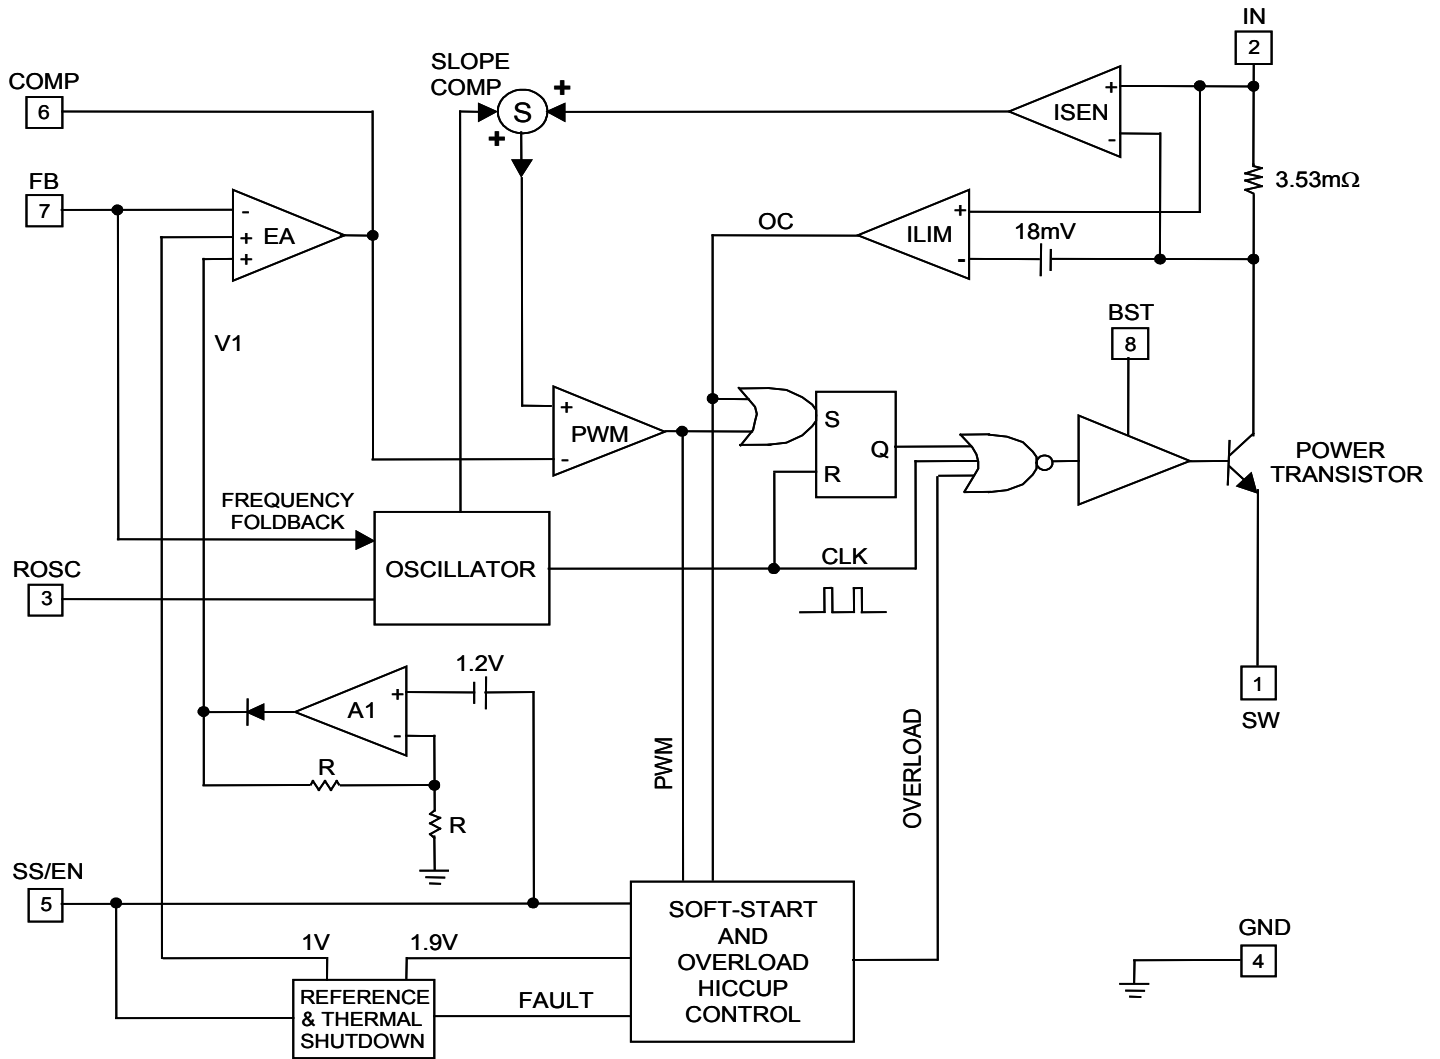

Figure 2 — SC4525D Block Diagram
As shown in Figure 2, the switch collector current is sensed with an integrated 3.53mΩ sense resistor. The sensed current is summed with a slope-compensating ramp before it is compared with the transconductance error amplifier (EA) output. The PWM comparator trip point determines the switch turn-on pulse width. The current-limit comparator ILIM turns off the power switch when the sensed signal exceeds the 18mV current-limit threshold.
The error amplifier EA in Figure 2 has two non-inverting inputs. The non-inverting input with the lower voltage predominates. One of the non-inverting inputs is biased to a precision 1V reference and the other non-inverting input is tied to the output of the amplifier A_1 . Amplifier A_1 produces an output $V_1 = 2(V_{SS/EN} - 1.2V)$. V_1 is zero and COMP is forced low when $V_{SS/EN}$ is below 1.2V. During start up, the effective non-inverting input of EA stays at zero until the soft-start capacitor is charged above 1.2V. Once $V_{SS/EN}$ exceeds 1.2V, COMP is released. The regulator starts to switch when V_{COMP} rises above 0.4V. If the soft-start interval is made sufficiently long, then the FB voltage (hence the output voltage) will track V_1 during start up. $V_{SS/EN}$ must be at least 1.83V for the output to achieve regulation. Proper soft-start prevents output overshoot. Current drawn from the input supply is also well controlled.
As summarized in Table 1, overload shutdown is disabled during soft-start ($V_{SS/EN} < 2.15V$). In Figure 3, the reset input of the overload latch B_2 will remain high if the SS/EN voltage is below 2.15V. Once the soft-start capacitor is charged above 2.15V, the output of the Schmitt trigger B_1 goes high, the reset input of B_2 goes low and hiccup becomes armed. As the load draws more current from the regulator, the current-limit comparator ILIM (Figure 2) will eventually limit the switch current on a cycle-by-cycle basis. The over-current signal OC goes high, setting
The PWM latch in Figure 2 is reset every cycle by the clock. The clock also turns off the power transistor to refresh the bootstrap capacitor. This minimum off time limits the attainable duty cycle of the regulator at a given switching frequency. The measured minimum off time is 100ns typically. If the required duty cycle is higher than the attainable maximum, then the output voltage will not be able to reach its set value in continuous-conduction mode.